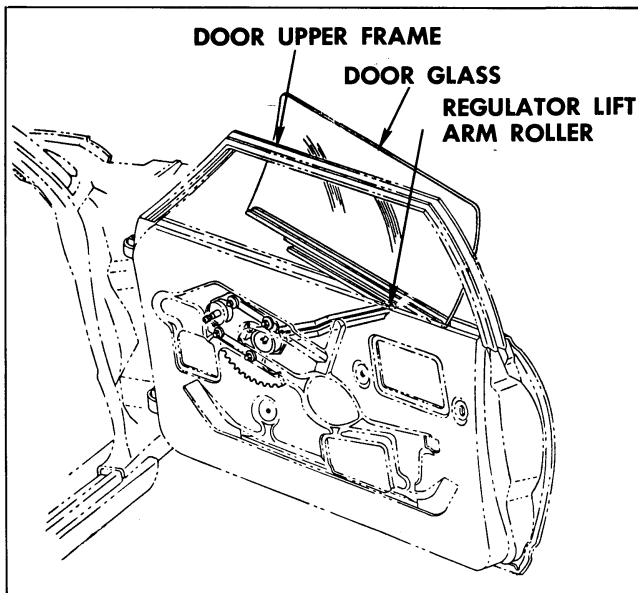

Fig. 12-28 Window Removal
5. Move window forward to disengage regulator arm roller(s) from window lower sash channel cam and remove glass outboard of door upper frame (Fig. 12-28).